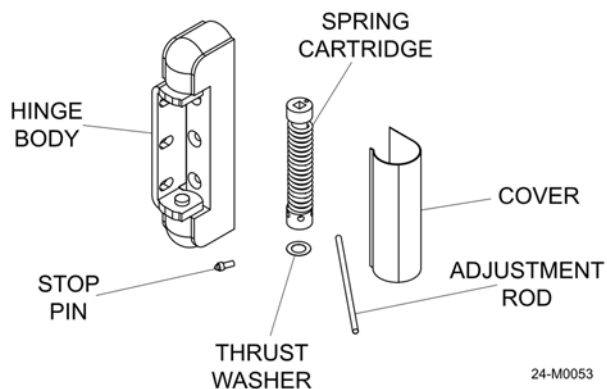

Figure 5-2
Hinge assembly: The hinge components are shown in Figure 5-2; The hinge body, spring cartridge, thrust washer, adjustment rod, stop pin and cover.
2. Assemble the spring cartridge as shown in Figure 5-2. Grease both ends of the cartridge with petroleum jelly.